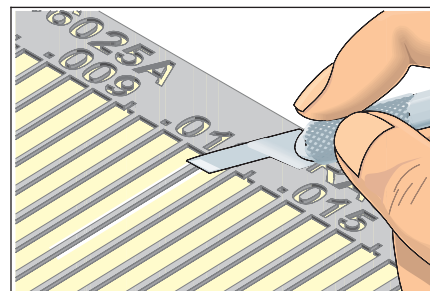

Figure 4 Cut out the new conductor. Cut from the plated side.
9. Cut out and trim the new conductor. Cut out from the plated side. Cut the length to provide the maximum allowable conductor overlap for soldering. Minimum 2 times the conductor width. (See Figure 4.)